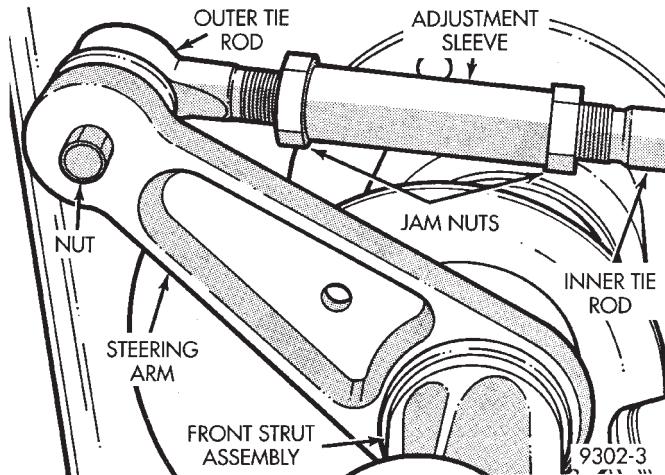

Fig. 20 Outer Tie Rod Jam Nut And Adjustment Sleeve
(1) Raise vehicle on jackstands or centered on a frame contact type hoist. See Hoisting in the Lubrication and Maintenance section of this manual, for the required lifting procedure to be used for this vehicle.
(2) Remove tire and wheel assembly.
(3) Loosen the outer tie rod to adjustment sleeve jam nut (Fig. 20).